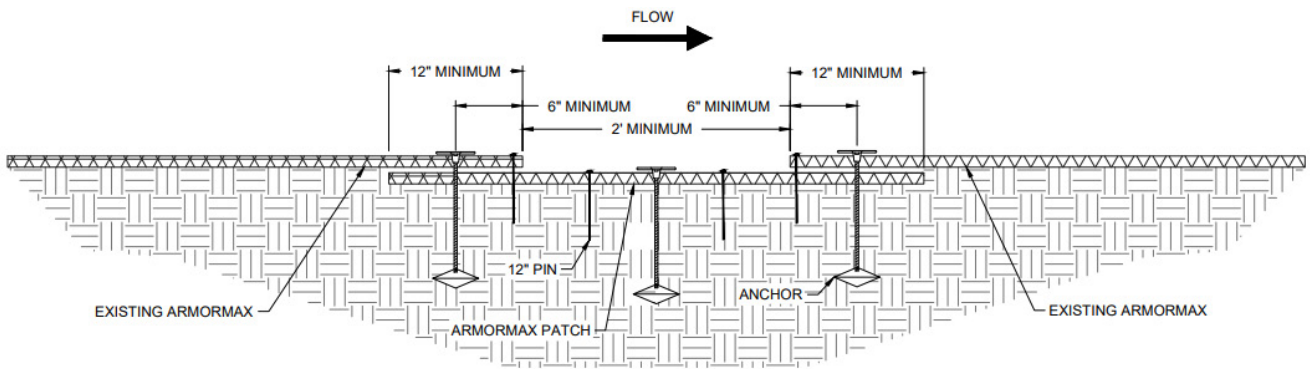
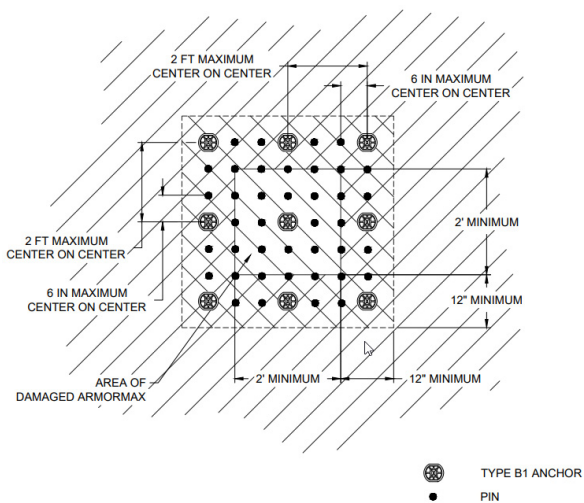

Figure 23: PROPEX Armormax Patch Cross Section
Figure 24: PROPEX Armormax Patch Plan View
3. To repair **PROPEX** Armormax, cut out and remove damaged areas in a square configuration a minimum size of 2 ft by 2 ft (0.6 m x 0.6 m). Remove all vegetation and debris atop of **PROPEX** Armormax. Loosen the top 1 in to 2 in (25 mm - 50mm) of soil in the patch area then seed. The subgrade of area to be patched shall be prepared to be smooth and uniform and transition smoothly into the in-situ area. Cut a square **PROPEX** Armormax patch a minimum of 12 in (305 mm) greater than the damaged area for all four sides of the patch. Overlap the patch area in all directions a minimum of 12 in (305 mm). The patch overlaps shall be tucked under the existing damaged **PROPEX** Armormax material (Figure 23 and Figure 24).